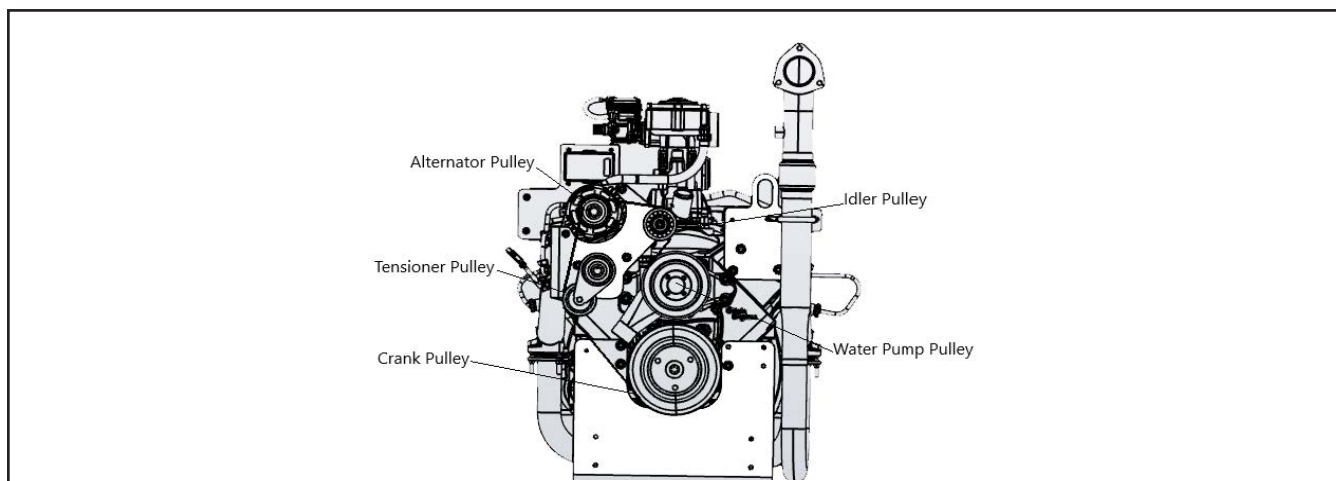

Figure 31 Tensioner Location
1. Use a 3/8" ratchet wrench to turn the tensioner pulley counter-clockwise against the spring force. See Figure 31.